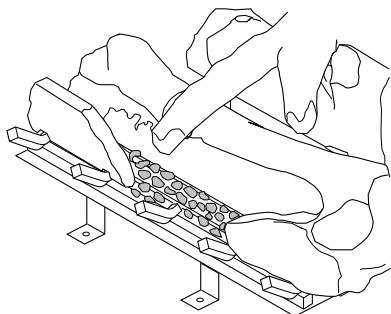

Figure 47 - Placing Ember Material on Burner
6. Pull ember material apart into pieces no larger than a dime. Place these pieces loosely and sparingly directly onto the exposed section of the front burner and along the space between the burner and grate prongs (see Figure 47). This will create the glowing ember appearance as the flame touches the ember material. Do not block air slots by using too much ember material in one area. It is not necessary to use all of the ember material provided.